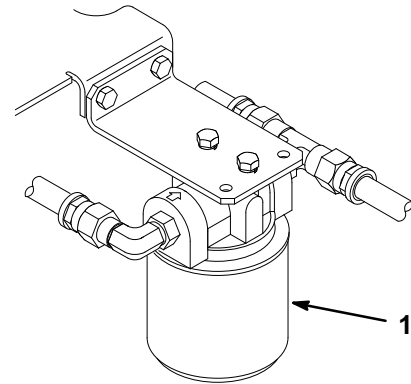

Figure 37
3. Place drain pan under filter, remove the old filter and wipe the filter adapter gasket surface clean (Fig. 37).